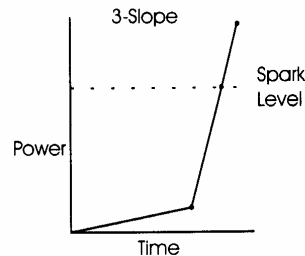

Figure 3-3
- **3 Slope:** steps through three different rates from setback to pre-spark levels for a recovery slope similar to that shown in see fig. 3.3, below. This method permits a longer distinguish time.